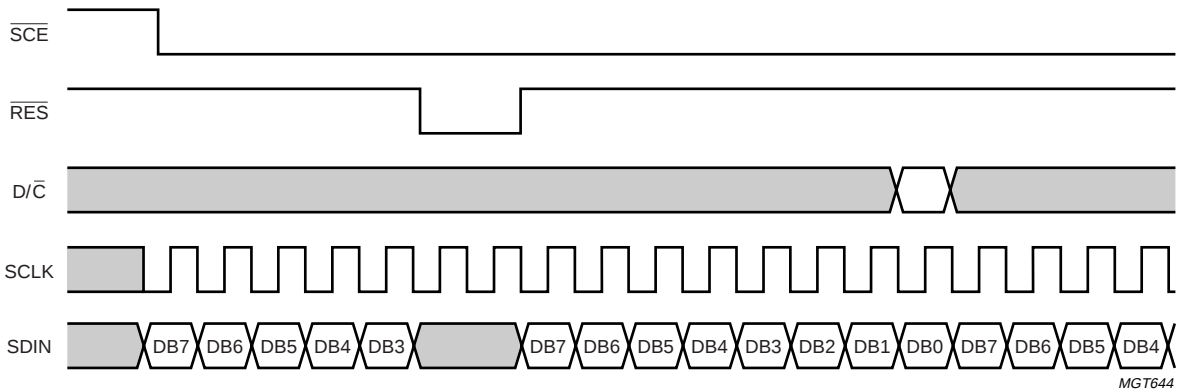

Fig.12 Serial bus reset function ($\overline{RES}$).
- When $\overline{SCE}$ is HIGH, SCLK clocks are ignored. During the HIGH time of $\overline{SCE}$ the serial interface is initialized (see Fig.12)
- If $\overline{SCE}$ stays LOW after the last bit of a command/data byte, the serial interface expects DB7 of the next byte at the next positive edge of SCLK (see Fig.12). If SCLK goes LOW after the last data bit (DB0), either:
- A reset pulse with $\overline{RES}$ interrupts the transmission. No data is written into the RAM. The registers are cleared. If $\overline{SCE}$ is LOW after the positive edge of $\overline{RES}$, the serial interface is ready to receive bit 7 of a command/data byte (see Fig.12).